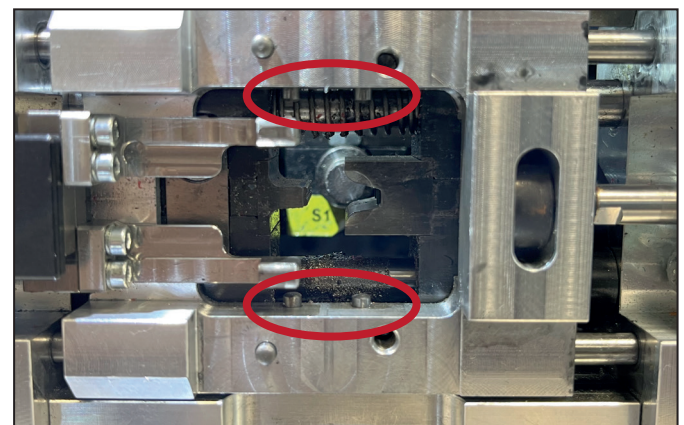

Figure 6.4 Replacing the ferrule holder
- ▶ Insert the ferrule holder of the conversion set. Make sure that the ferrule holder is precisely positioned over the guide pins (see Figure 6.4).